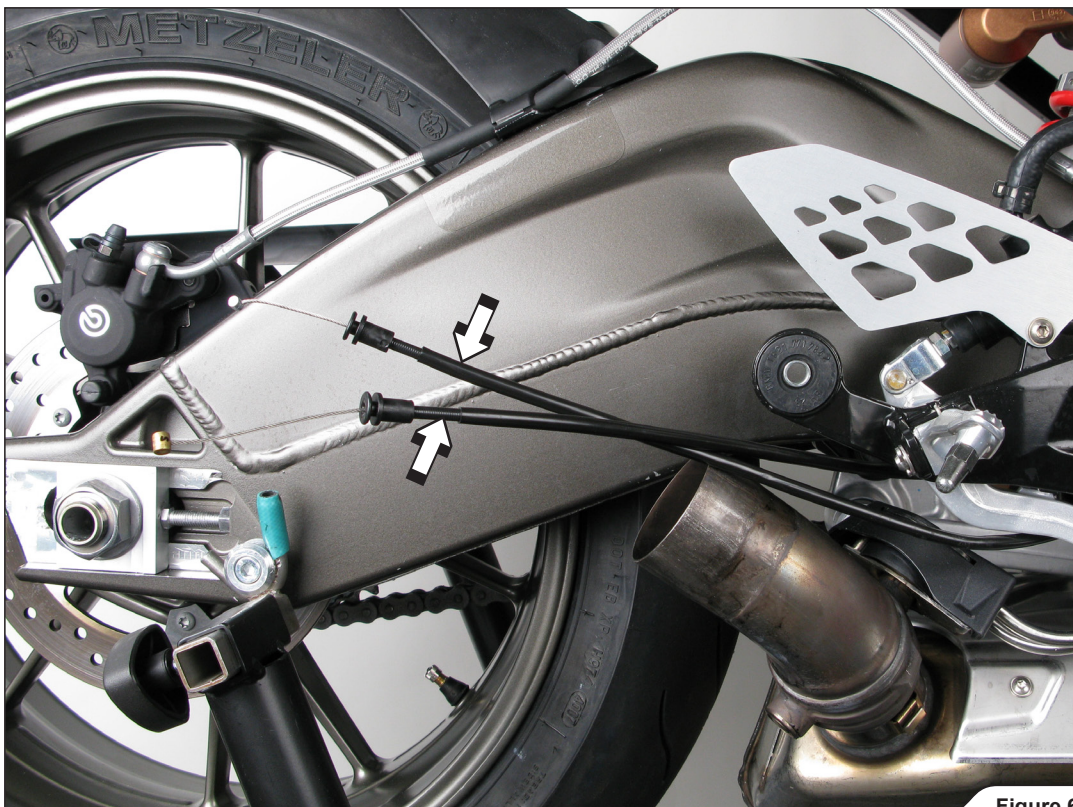

Figure 6
7. Free the cables from the motorcycle (Figure 6).